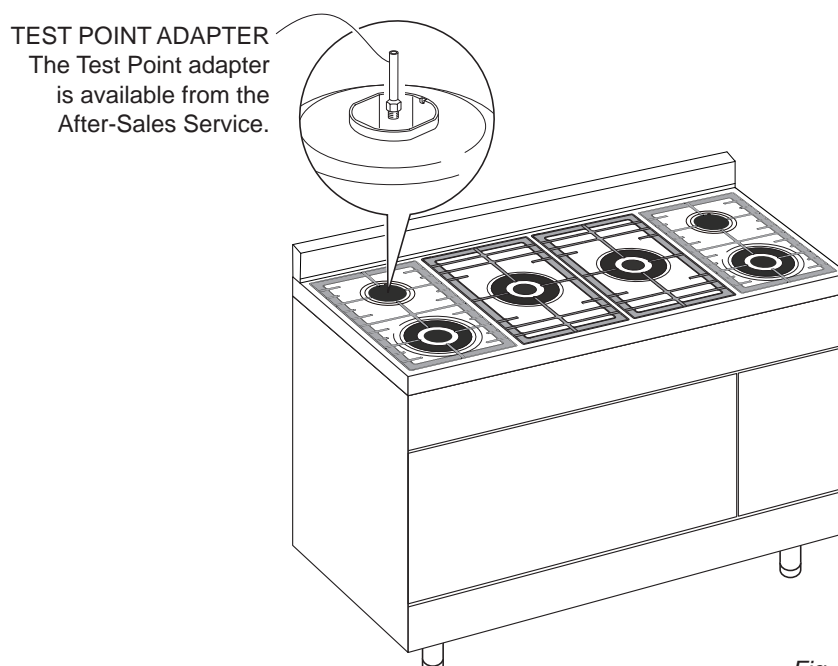

Fig. 2.7
- Remove the injector from the rear left (or rear right) burner and mount the proper test point adapter which is available from the After-Sales Service (see fig. 2.7 and the "OPERATIONS TO BE PERFORMED WHEN SUBSTITUTING THE INJECTORS OF THE COOKTOP BURNERS" chapter).